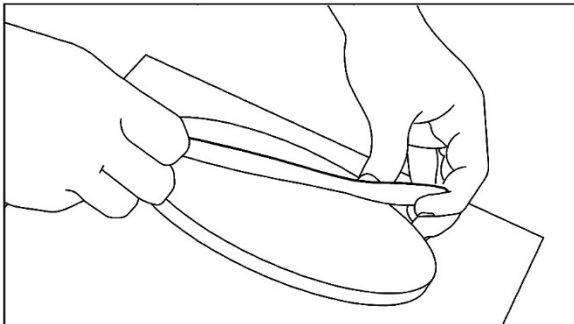

Figure 21: Attaching sanding disc
7. Remove backing from new abrasive disc and press abrasive disc firmly onto disc plate (see Figure 21).